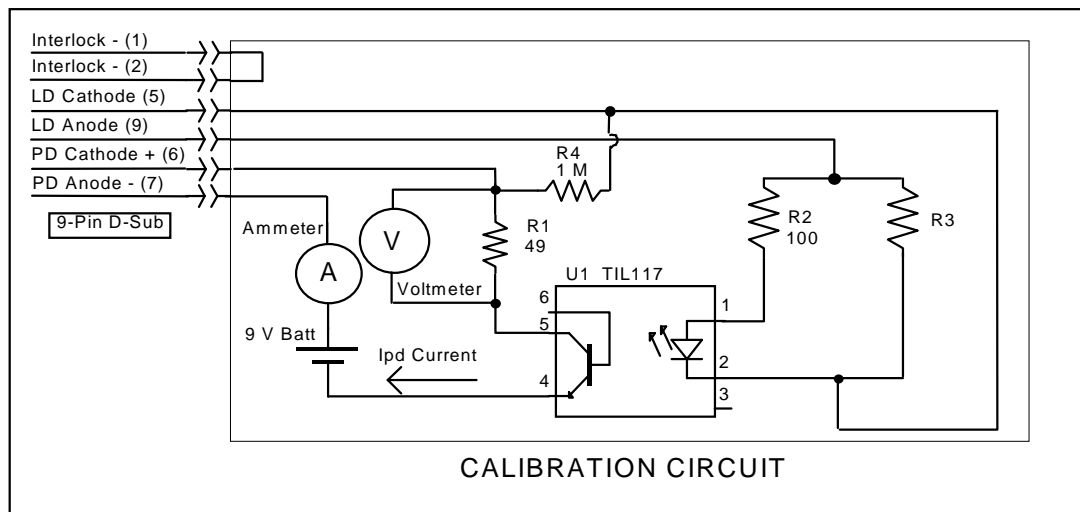

Figure 3.1  $I_{PD}$  Calibration Circuit
- 1 Select the LCM-39425 to be calibrated by pressing the appropriate (ADJUST) switch until the LAS indicator is orange. With the LASER output off, connect a calibrated ammeter to the PD Anode output of the LCM-39425, and connect the circuit of Figure 3.1 to the LASER and PD outputs.
If a calibrated ammeter (with 0.1  $\mu\text{A}$  resolution) is not available, place a calibrated DMM (with 0.1 mV resolution) to measure the voltage across the resistor, R1, as shown in Figure 3.1. Calculate the current in the following steps by using Ohm's Law:
- 1 With the LASER output off, connect a calibrated ammeter to the PD Anode output of the LCM-39425, and connect the circuit of Figure 3.1 to the LASER and PD outputs.
If a calibrated ammeter (with 0.1  $\mu$ A resolution) is not available, place a calibrated DMM (with 0.1 mV resolution) to measure the voltage across the resistor, R1, as shown in Figure 3.1. Calculate the current in the following steps by using Ohm's Law: